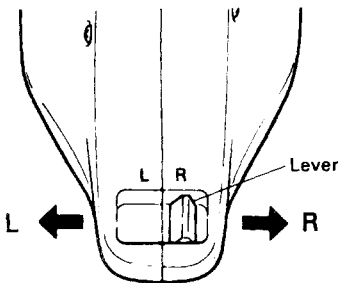

Fig. 4 (DV20V2·DV14V)
7. Confirm the direction of bit rotation (Fig. 4)